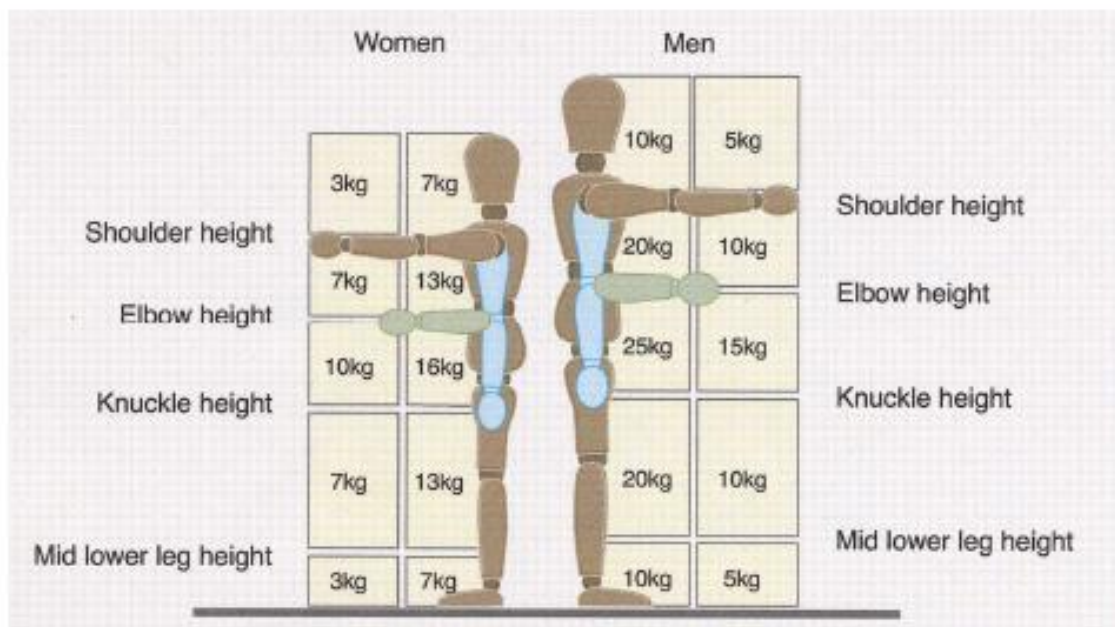

Figure 1
6. Managers can use figure 1 in appendix one to make a quick and easy assessment. If the manual handling activity is within the guidelines described then a detailed assessment is not required. As a guide a packet of 500 sheets of A4 paper weighs 2.5 kg and a box of the same 12.5 kg. Lifting items weighing less than 3 kg (women) and 5 kg (men) would not require a manual handling assessment but one would be required for lifting the water bottle. Providing boxes of paper are not kept on the floor or above head height and can be lifted without extending the arms then a detailed risk assessment would not normally be required for this, unless the employee was pregnant or suffering from ill-health.
10. Using Figure 1 is a first step. If it shows the manual handling is within the guideline figures (bearing in mind the reduced limits for twisting and for frequent lifts) you need not do any more in most cases. But you will need to make a more detailed assessment if any of the following apply: